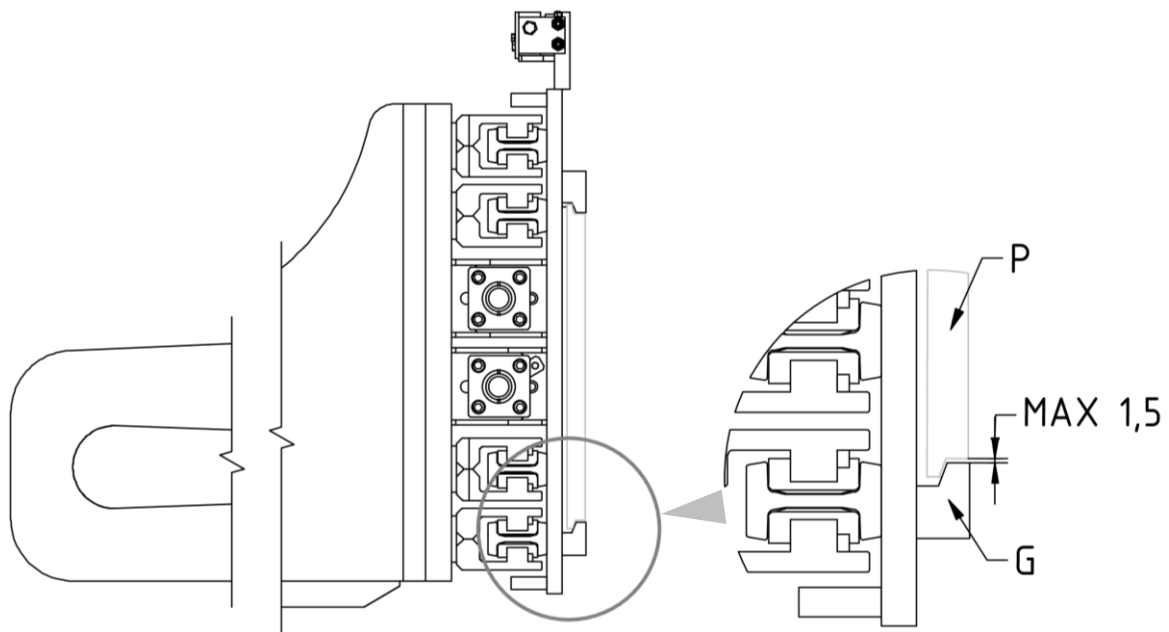

Figure 4
8. Screw on the 2 lower couplings G in such a way that their bodies also remains coupled to the lower part of the fork carriage P (with max. clearance of 1.5 mm, see detail *Figure 4*), tightening with the torque indicated in *Table 3*.
3. Check the clearance between the lower part of the fork carriage plate and the lower equipment couplings, ensuring that it is as shown in *Figure 4* (page 12) and, if necessary, adjust the tightening of the bolts holding them in place.